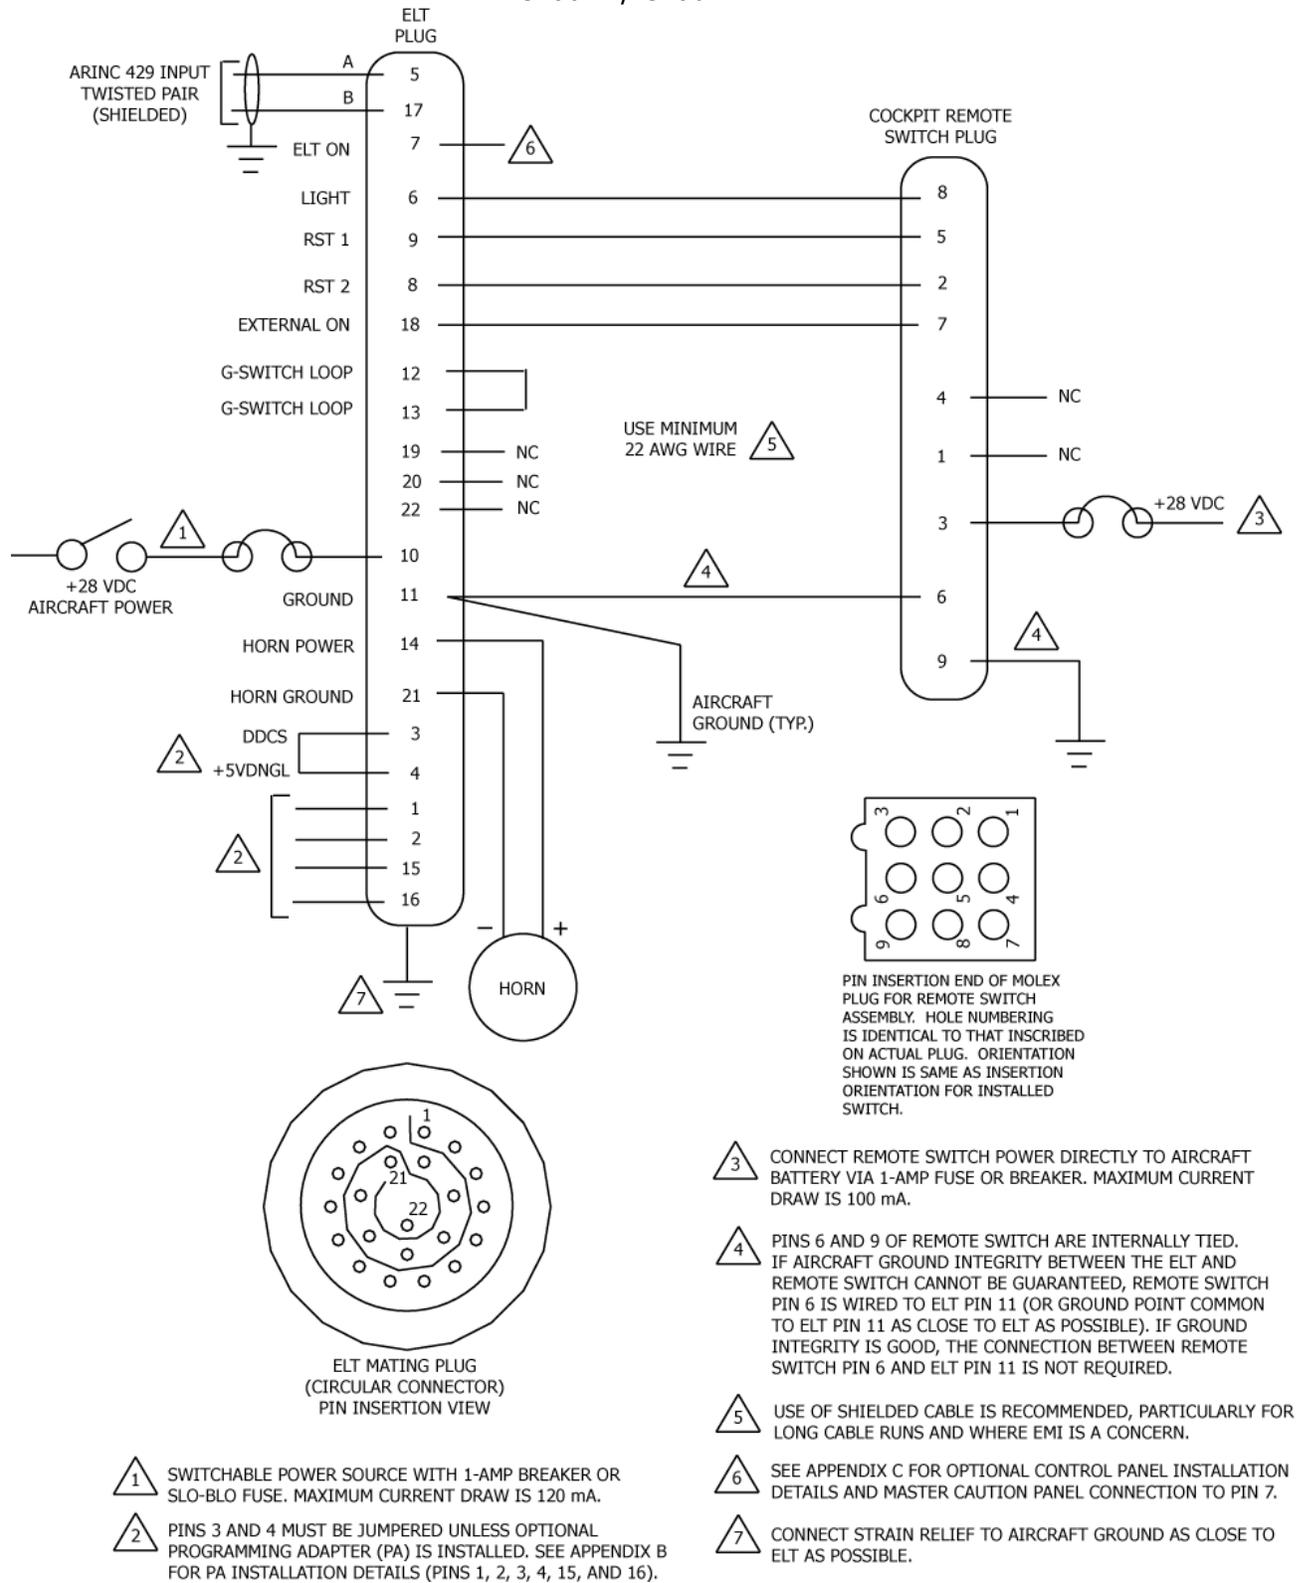
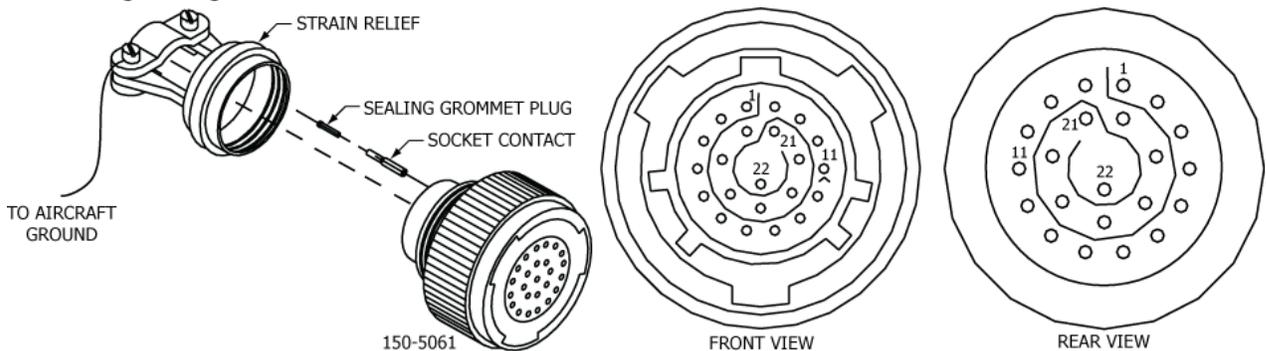

Figure 22 Remote Switch Harness Wiring Diagram
Figure 23 Harness ELT 22-Pin Plug Arrangement
- 4) See Figure 22 Remote Switch Harness Wiring Diagram on page 56.
NOTE: This wire will be crimped in the same pin as the wire running from Pin 11 of the ELT plug to the cockpit remote switch plug Pin 6, if the Pin 11 to Pin 6 connection is required. See Note 4 in Figure 22 Remote Switch Harness Wiring Diagram on page 56. Alternatively, the wires may be spliced in a manner acceptable to the aircraft manufacturer, or as described in AC 43.13-1, Paragraph 11-167.
- a) The Pin 11 ground wire. The wire running from Pin 11 to remote switch Pin 6 is terminated in the same pin, if this wire is required. See Figure 22 Remote Switch Harness Wiring Diagram on page 56. Make a note of the wire identification for later reference.
- 1) Refer to Figure 22 Remote Switch Harness Wiring Diagram on page 56 and Figure 23 Harness ELT 22-Pin Plug Arrangement below.
- 1) Insert the wiring pins in the 151-5009 Molex 9-pin cockpit remote switch plug. See Figure 22 Remote Switch Harness Wiring Diagram on page 56.